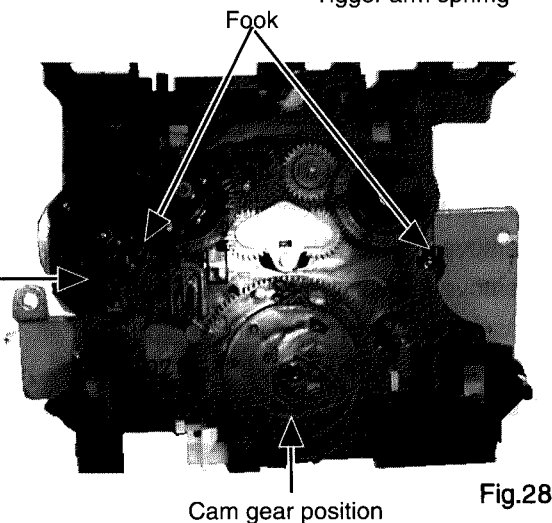

Fig.28
1. Set the Levers and Gear position as shown in the figure below. (Fig.27, Fig.28) (Head position : Forward)